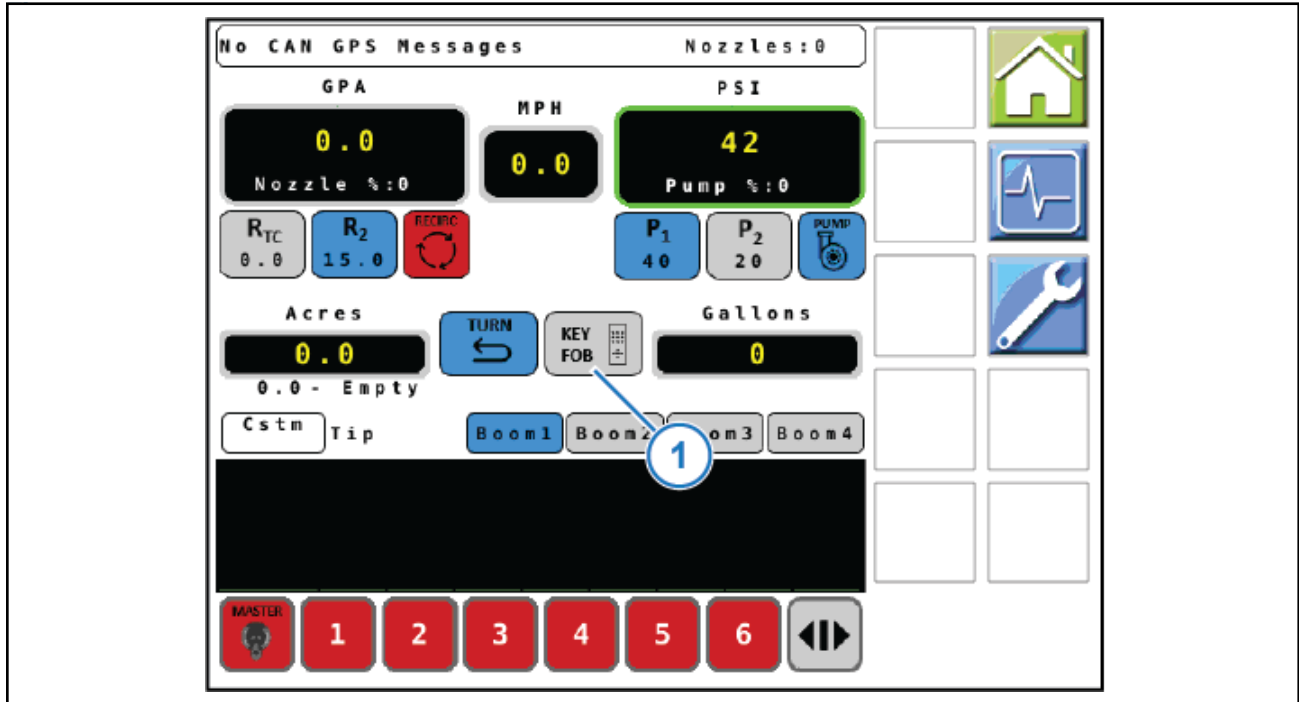

Figure 32: Key Fob Mode
1. After performing the boom shutoff wet test, initiate the key fob boom shutoff wet test, by selecting the **KEY FOB** icon (Figure 32, Item 1)
6. Deselect the **KEY FOB** icon (Figure 32, Item 1).